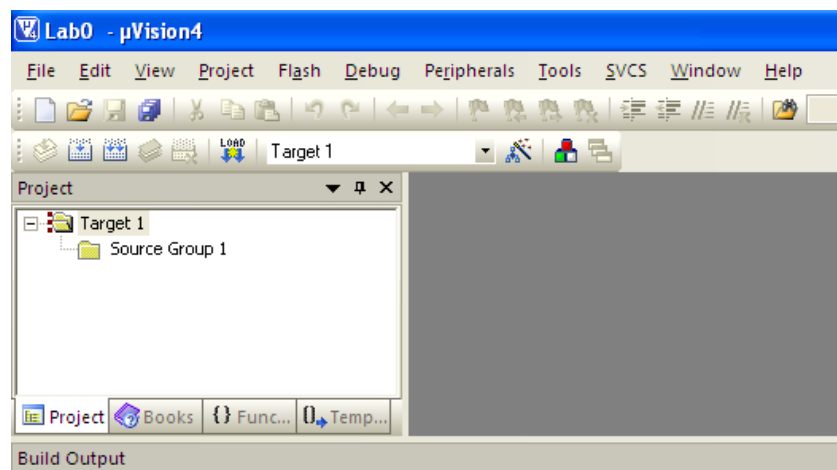

Figure 1.2 – The μ Vision4 environment [5]
- 7 Switch back to the μ Vision4 screen, which should now resemble Figure 1.2.